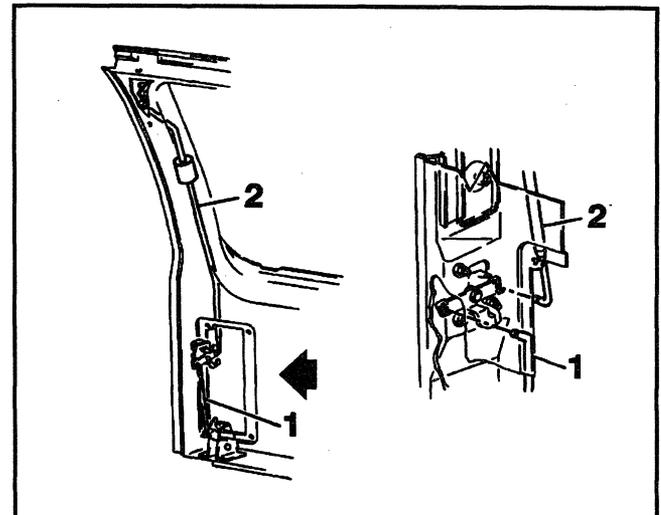

Figure 93—Rear Cargo Door Latch Control Rods
↔ Remove or Disconnect (Figures 93 and 94)
4. Lower latch control rod (1) from control handle clip (Figure 93).
5. Upper latch control rod (2) from control handle clip (Figure 93).
→ Install or Connect (Figures 93 and 94)
3. Upper latch control rod (2) from control handle clip (Figure 93).